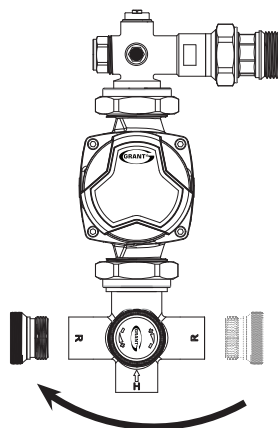

Figure 3-5: Re-fit threaded connector
3. Fit the threaded connector into the left side of the 4-port blending valve and ensure it is securely tightened using the supplied brass hexagonal key. Refer to Figure 3-5.